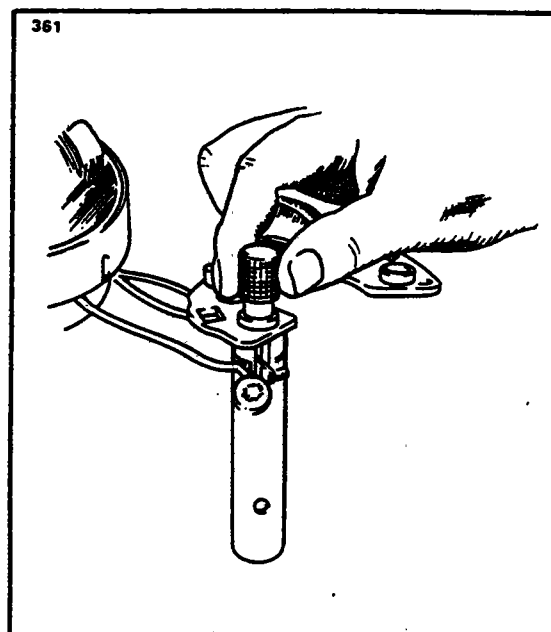

Figure 11-73. Removal of Rectifier
- d. Remove the nuts, lock washers, flat washers and insulators from the output and auxiliary terminal studs. Note carefully the correct assembly of the insulator washers and bushings. Using the special tools shown in Figure 11-73, support the end head and press out the three negative rectifiers. The end head can now be separated from the stator assembly.